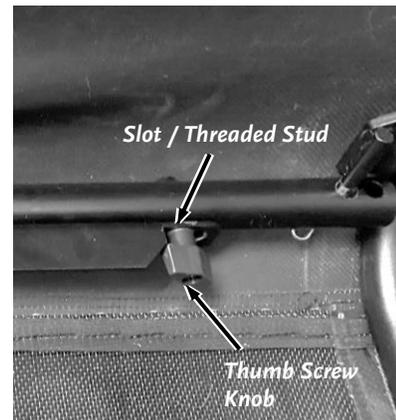

Figure 42
4. With both Tube Hinge parts coming together, secure them with a Thumb Screw Knob onto the threaded stud. Screw until tight (**Figure 42**).